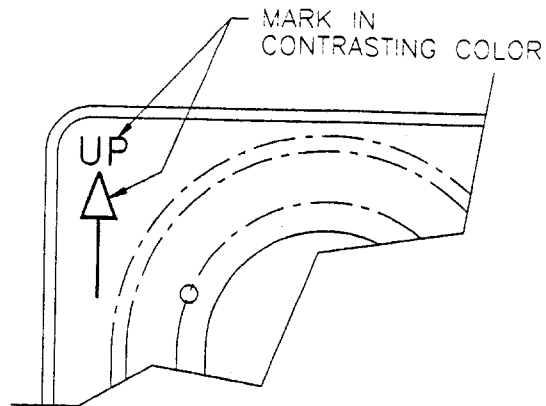

Figure 4.
5. When the paint is dry, draw an arrow and write the word 'UP' on the back side of the plate in a contrasting color as shown in Figure 4.